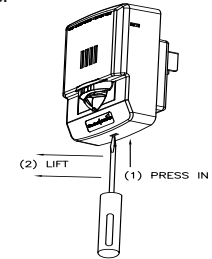

Figure 6: Removal (See step 5)
5. To remove the appliance, insert a small flat-bladed screwdriver into the bottom opening 1/2" as shown in Figure 6. Then pry off beauty cover with the screw driver and then unscrew device.
**WARNING: A small possibility exists that the use of multiple strobes within a person's field of view, under certain circumstances, might induce a photo-sensitive response in persons with epilepsy. Strobe reflections in a glass or mirrored surface might also induce such a response. To minimize this possible hazard, Cooper Wheelock strongly recommends that the strobes installed should not present a composite flash rate in the field of view which exceeds five (5) hz at the operating voltage of the strobes. Cooper Wheelock also strongly recommends that the intensity and composite flash rate of installed strobes comply with levels established by applicable laws, standards, regulations, codes and guidelines.**